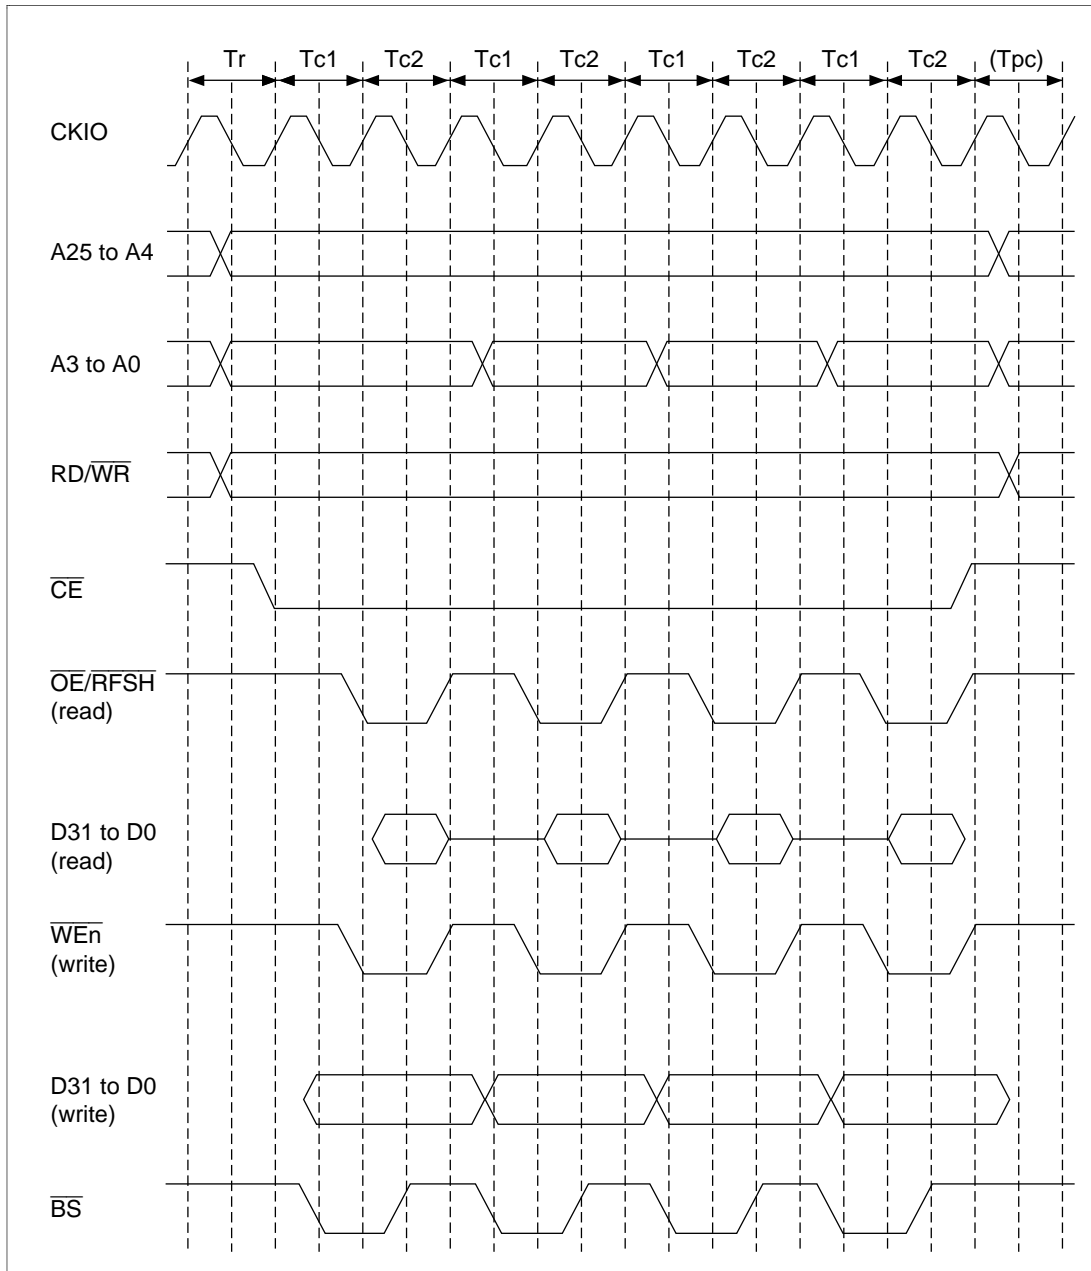

Figure 10.35 Pseudo-SRAM Static Column Mode
Burst Access: In addition to the normal access mode in which \overline{CE} is asserted and negated in each access, some pseudo-SRAMs are provided with a static column mode for the case where consecutive accesses are made to the same row address. This mode allows fast access to data by keeping \overline{CE} asserted and changing only the column address. Normal access or burst access using static column mode can be selected by means of the burst enable (BE) bit in MCR. The timing for burst access in static column mode is shown in figure 10.35. Cycles can also be inserted by the wait state control function when burst access is performed.